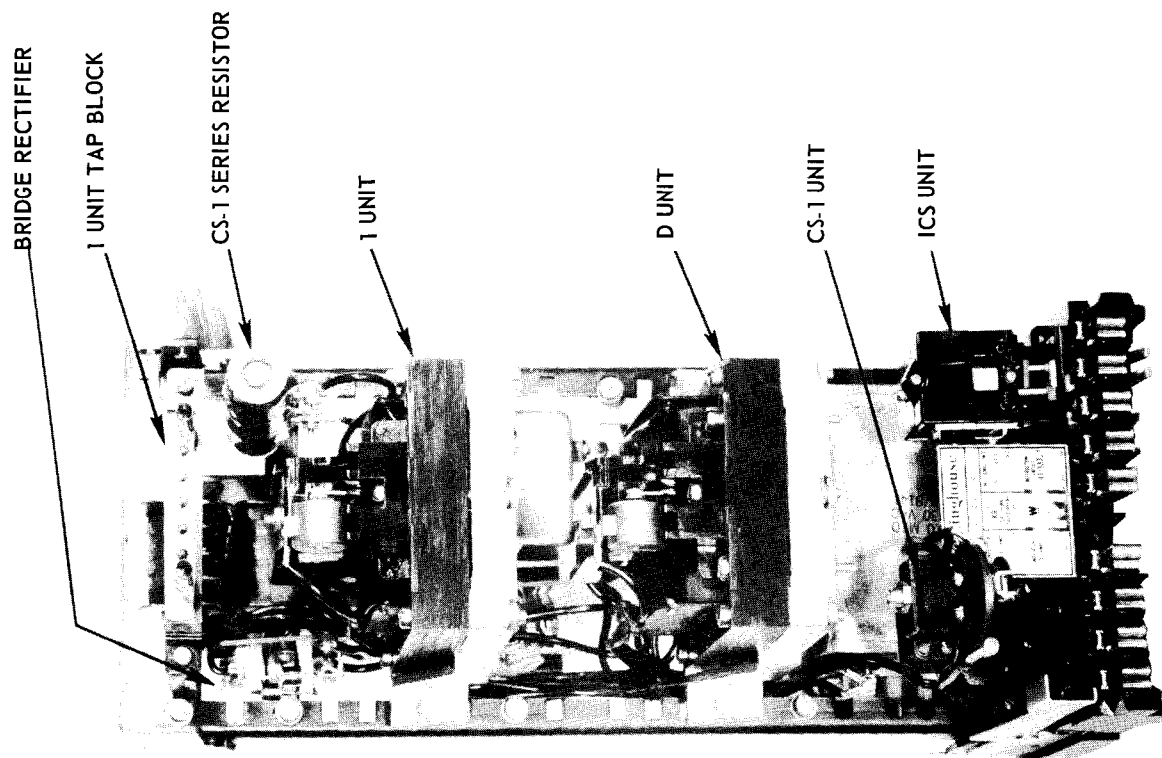

Fig. 1. Type KRV Relay Without Case (Front View)
The Type KRV relay consists of a directional unit (D), an auxiliary switch (CS-1), an instantaneous unit (I), an instantaneous overcurrent unit transformer, and an indicating contactor switch (ICS). The principle component parts of the relay and their location are shown in Figs. 1 and 2.